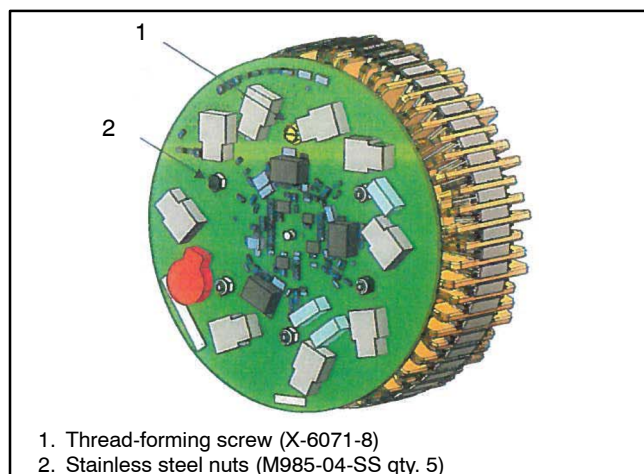

Figure 9 Activator Board
- 4.5 Secure the activator board (GM98939-1) to the studs on the spacer by using 5 stainless steel elastic stop hex nuts (M985-04-SS) and a thread-forming screw (X-6071-8). Torque to 1.3 Nm (12 in. lbs.). See Figure 9 and Figure 11.